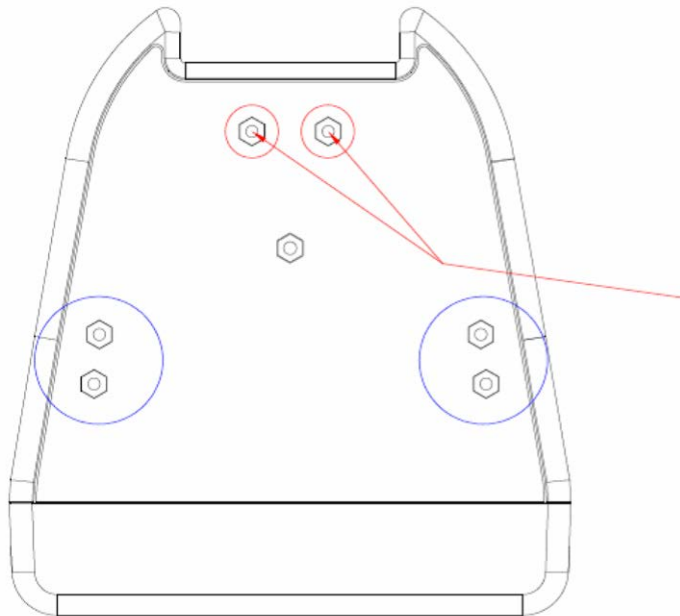

Figure 3
For the One Systems 312/HC a total of four (4) M10 “eye” bolts must be used, as shown in figure 3 below.